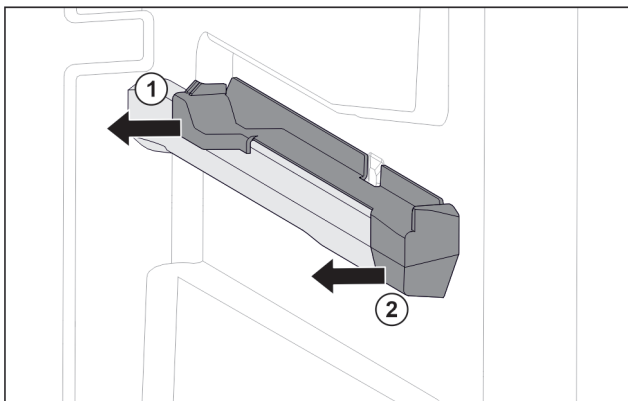

Fig. 50 Attachment on the right moulded rib
- ▶ Grab attachment at the back from below. (1)
- ▶ Pull off attachment at the back sideways. Fig. 50 (1)
- ▶ Pull off attachment at the front sideways. Fig. 50 (2)